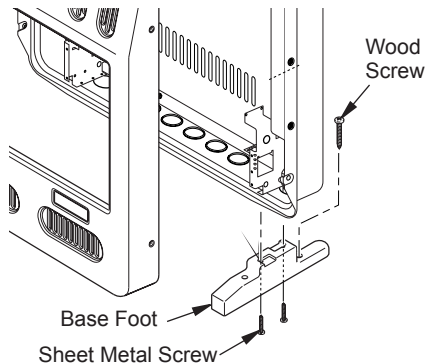

Figure 13 - Installing Base Feet
3. Align holes in base foot with mounting holes on bottom of cabinet (see Figure 13).
4. Reposition heater with base feet over holes. Secure base to floor with wood screws. See Figure 13.